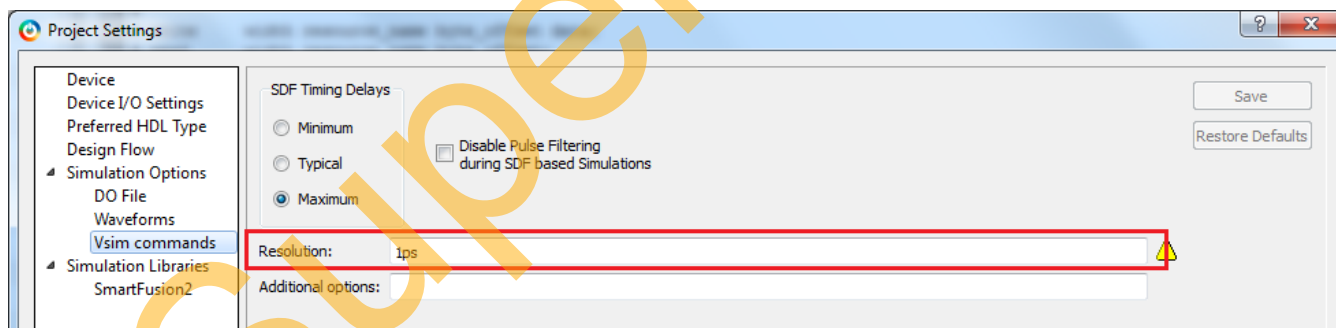

Figure 32. Simulation Resolution
3. Select the **Vsim Commands** option under the **Simulation Options**, and modify the **Resolution** to **1ps**, as shown in Figure 32. This options sets the simulation resolution to 1ps.